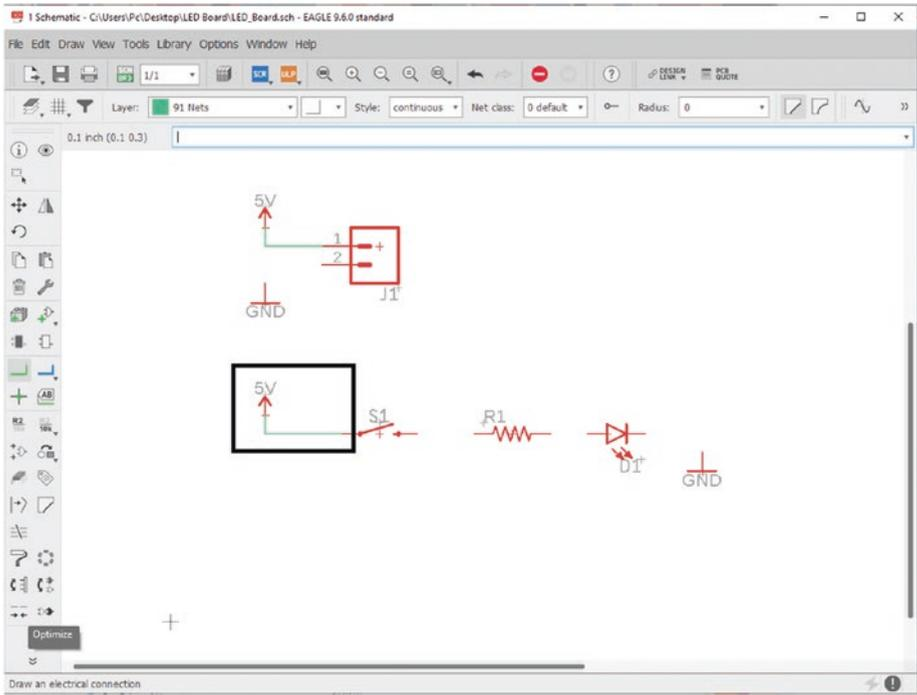

Figure 5-44. Connect 5V to the right side of S1
- 32. Connect 5V to the left side of the switch symbol. See Figure 5-44.